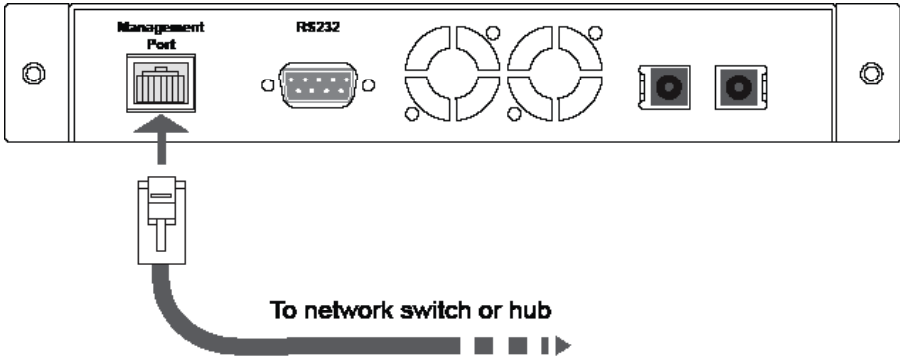

Figure 8: Connecting the Management Port
1. Type **show set** and press Enter. The CLI displays the current setting similar to the example in Figure 8.